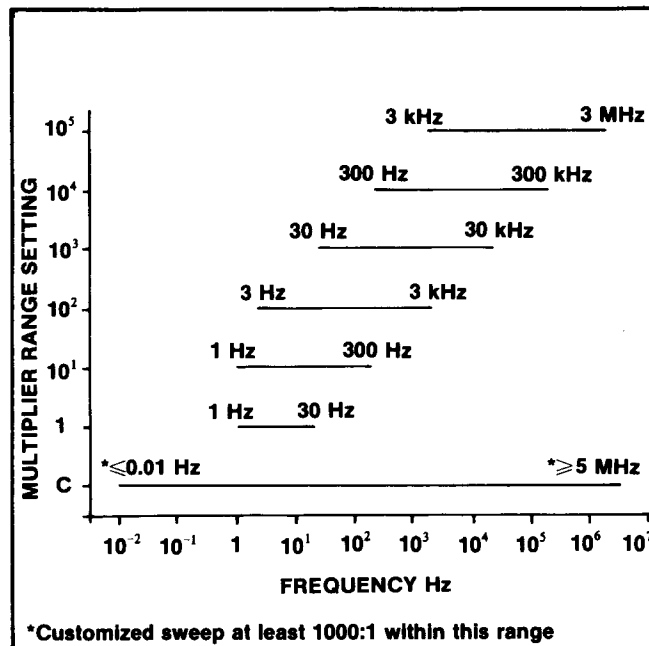

Fig. 1-4. Graph showing range of frequencies for each MULTIPLIER setting that can be swept with a 0 to 10 V signal applied to the VCF input.
MULTIPLIER setting, by applying a 0 V to 10 V signal to the VCF IN connector. It may be necessary to vary the CAL control to obtain the full 1000:1 swept range or the lowest swept frequency desired. See Fig. 1-4 for maximum VCF range for each MULTIPLIER setting.
range of 20 Hz to 20 kHz is desired. Fig. 1-4 shows that no fixed multiplier setting includes the desired limits. The value of the capacitor that must be installed is determined by the following formula:
2. Set the MULTIPLIER selector and FREQUENCY Hz dial for the desired upper or lower frequency limit (depending on the direction you may wish to sweep). See Fig. 1-4 for VCF ranges and MULTIPLIER settings.